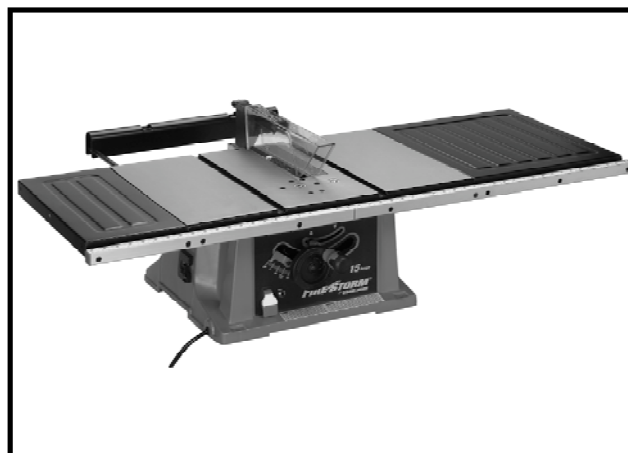

Fig. 20
3. Fig. 20, illustrates the guide rails properly assembled to saw table and extension wings.